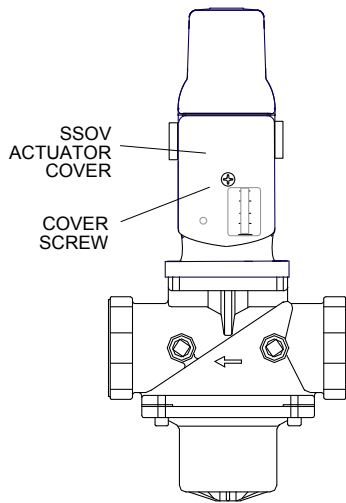

Figure 6.6
2. Remove the Safety Shut-Off Valve (SSOV) cover (see Fig. 6.6). For units with IRI gas trains, access the terminals in the downstream SSOV (see drawing AP-A-742 or AP-A-745 (Dual-Fuel) in Appendix F).